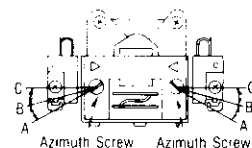

Fig. 6
9. In the forward playback mode, playback the 8kHz signal from the test tape (QZZCFM). Adjust the azimuth screw (Forward) shown in fig. 6 for maximum output L-CH and R-CH levels. When the output levels of L-CH and R-CH are not at maximum at the same point adjust as follows.
10. Turn the azimuth screw (Forward) shown in fig. 6 to find angles A and C (points where peak output levels for left and right channels are obtained). Then, locate angle B between angles A and C, i.e., point where L-CH and R-CH outputs are balanced. (Refer to figs. 6 and 7.)